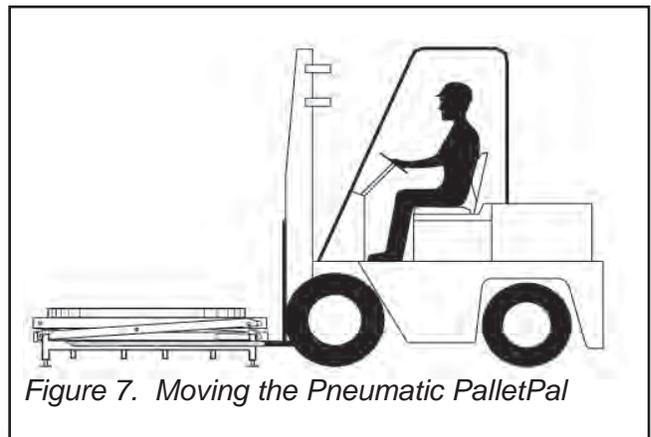

Figure 7. Moving the Pneumatic PalletPal
2. Insert the forks into the pockets in the base frame. See Figure 7.